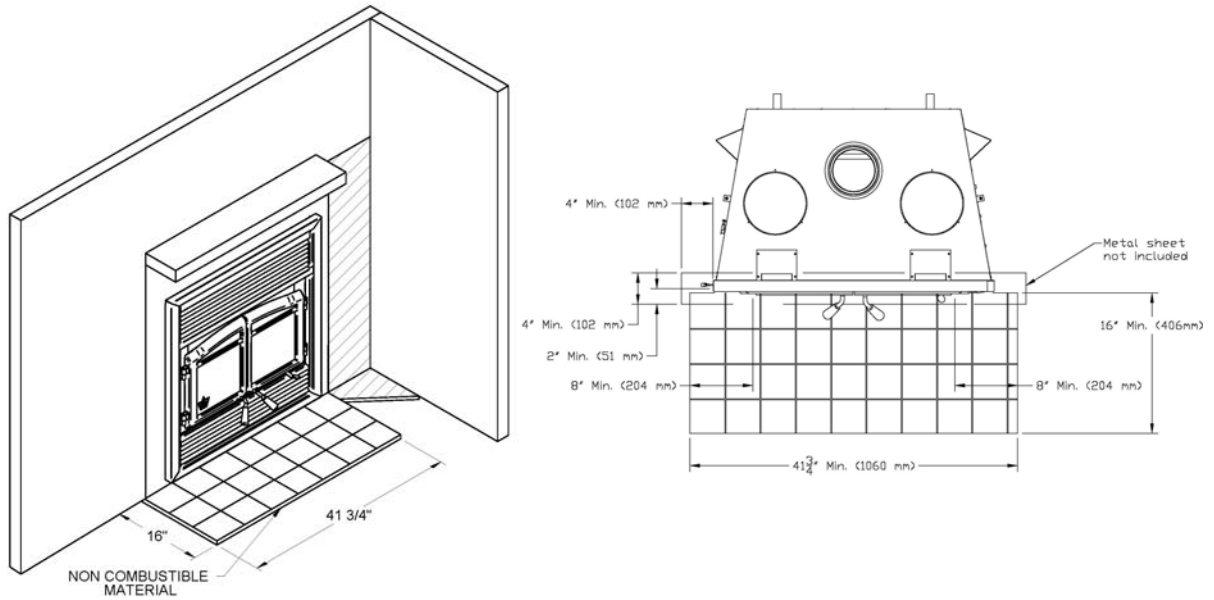
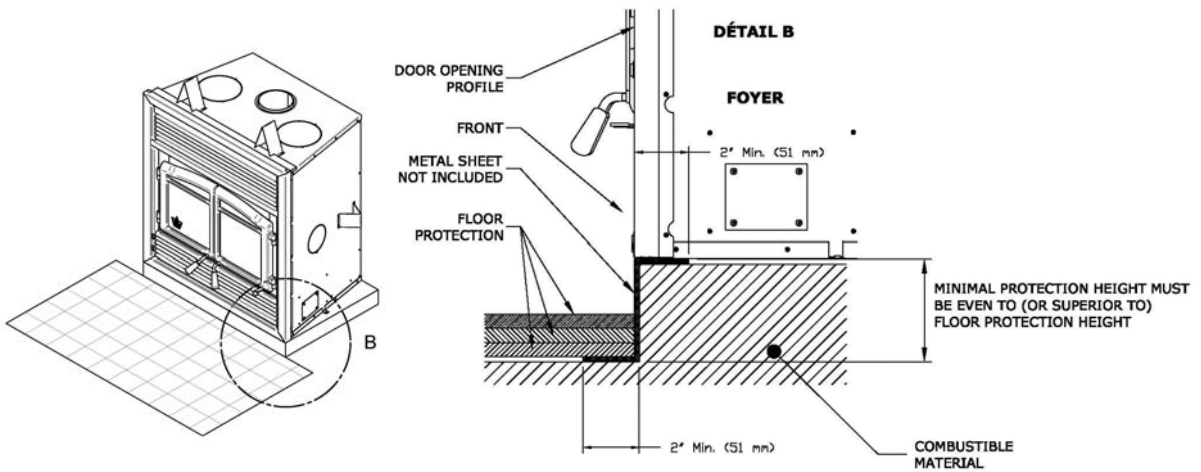
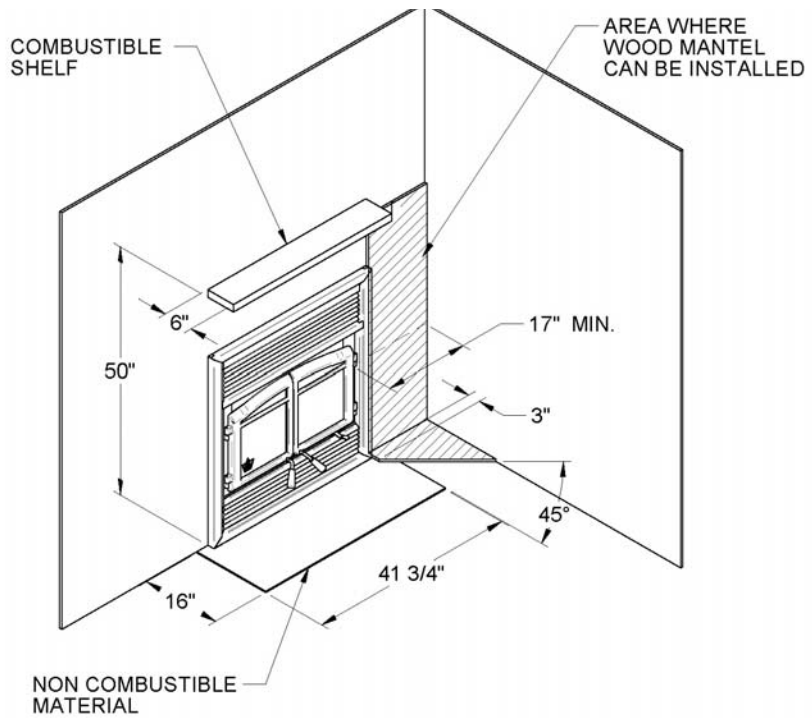

Figure 7
Figure 8
Figure 10
The hearth extension floor area (see (A) on Figure 10) must extend at least 16" (40 cm) in front and at least 8" (20 cm) on each side of the door opening (see Figure 7). The joint between the hearth extension and the fireplace hearth needs to be made of non-combustible material such as sheet metal or sand-cement grout (not included) as shown on Figure 8.
The construction of the framing, facing, and mantel must be in accordance with the standards and the following illustrations (figures 10 to 14):